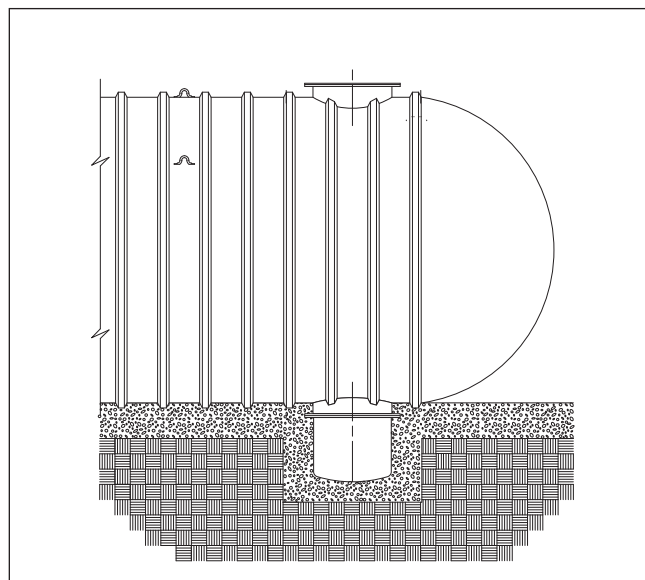

FIGURE 10-2
10.1.4. The required 12 inches of backfill bedding on the bottom of the excavation must also be present in the excavation hole in which the sump or fitting will be placed. See FIGURE 10-2.